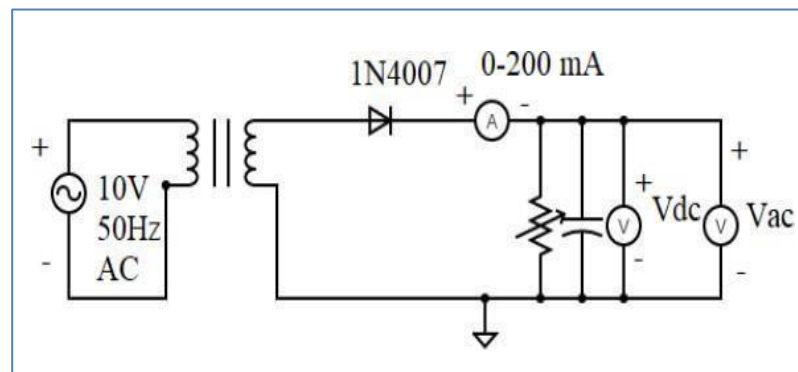

Fig 4.2. Half wave rectifier with filter
4.2 Verification of Half wave rectifier with filters using hardware shown in fig 4.2 and draw the waveforms.